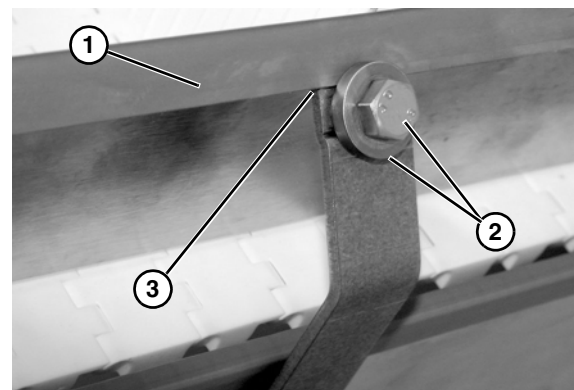

Figure 19
3. Attach guide (**Figure 19, item 1**) to the mounting brackets with hex bolts and spacers (**Figure 19, item 2**). Hand tighten only at this time.
4. Ensure that nose of bracket slips under the lip of guide (**Figure 19, item 3**).